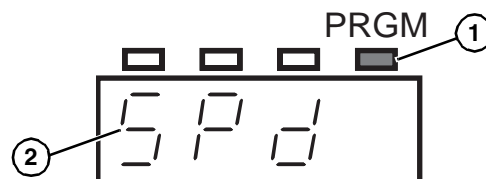

Figure 24
1. Press MODE to switch to the data setting mode. The PRGM LED (Figure 24, item 1) will illuminate and “SPd” (Figure 24, item 2) will be displayed.